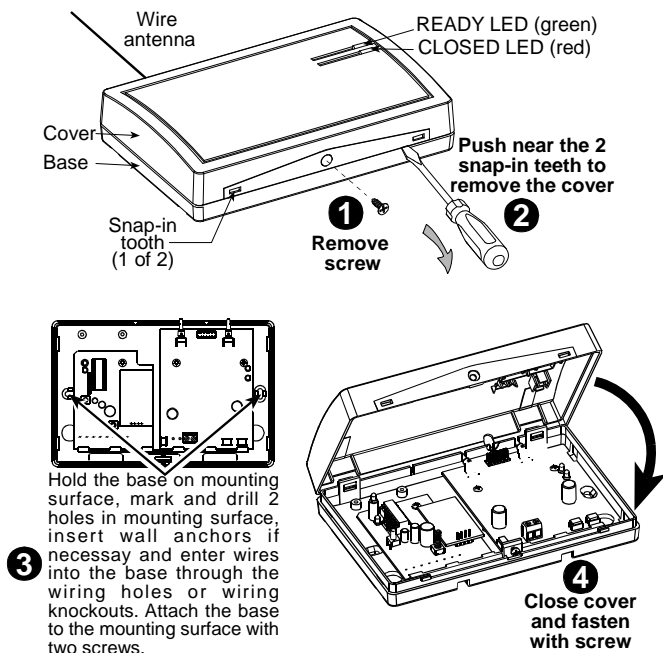

Figure 5 - Control Unit Mounting
- A. Remove Control Unit cover (see figure 5 steps 1 & 2).
5.2 Control Unit Installation (see figure 5)
Before installation, disconnect the power that was connected to the Control Unit during the enrolling process. Install the Control Unit as shown in figure 5, step 3. at height of at least 1.2m.
Carefully close the front panel of the control panel, straighten the antenna wire and tighten the front panel with the screw (see figure 5).